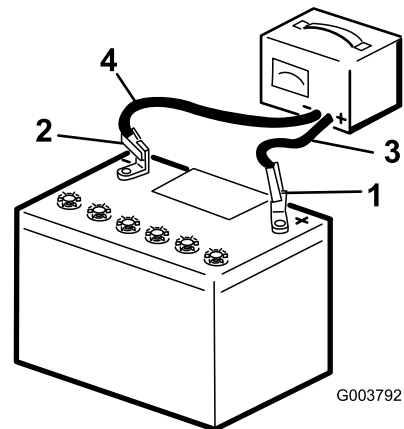

Figure 38
3. Charge the battery for 10 to 15 minutes at 25 to 30 amps or 30 minutes at 4 to 6 amps (Figure 38). Do not overcharge the battery.
4. When the battery is fully charged, unplug the charger from the electrical outlet, then disconnect the charger leads from the battery posts (Figure 38).